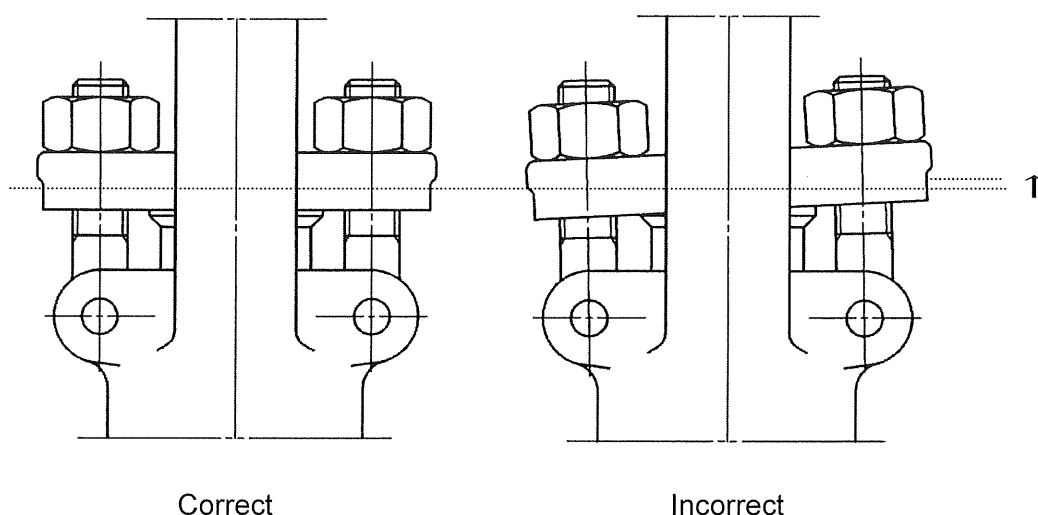

Figure 7.3 Examples for Adjustment (Tightening) of Gland Bolt Nuts
- 5) When tightening up the gland bolt nuts, the handwheel should be turn now and then so to adjust the tightness of the gland packing, as shown in Figure 7.3. Tightening up the gland bolt nuts gradually and uniformly in order to avoid tendency to twist.
- 4) When tightening up the gland bolt nuts, the hand wheel should be turn now and then so to adjust the tightness of the gland packing, as shown in Figure 7.3. Tightening up the gland bolt nuts gradually and uniformly in order to avoid tendency to twist.